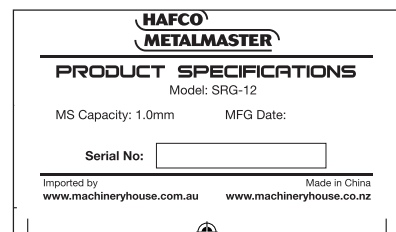

FIG.1
*In order to see the type and model of the machine, please see the specification plate. Usually found on the back of the machine. See example (Fig.1)*